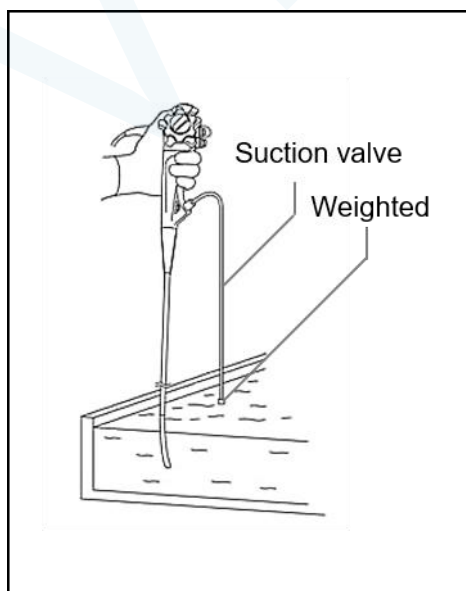

Figure 7.13
1. Connect the suction cleaning connector to the instrument channel opening (Figure 7.13).